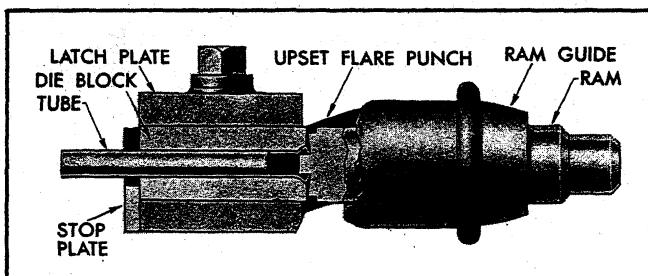

Fig. 14—Flaring Operation—First Flare
6. Using the supplied wrench, draw the latch plate nut down tight to prevent the tube from slipping. Tightening the nuts alternately (beginning with the nut at the closed hole in the plate) will prevent distortion of the plate. Remove the punch and the ram. Now reverse the punch and put it back into the tool body. Install the ram and tap it lightly until the face of the upset flare punch contacts the face of the die blocks (fig. 14). This completes the first operation. Remove the ram and the punch.